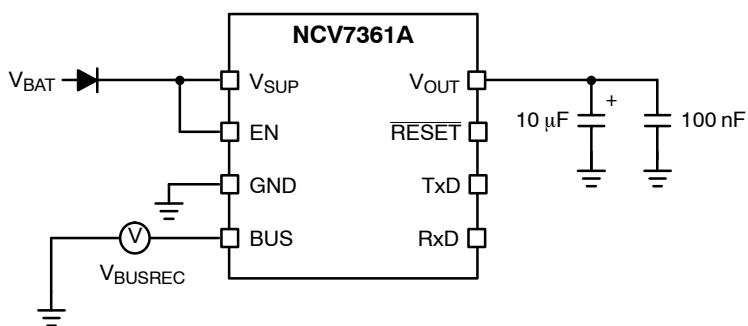

Figure 7. Test Circuit for Bus Voltage "Recessive" ( $V_{BUSREC}$ )
7. See Figures 7, 8, and 9 for test setup.